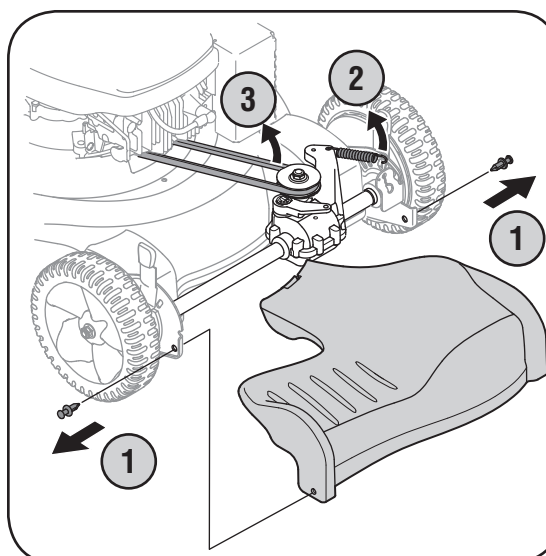

Figure 5-3: Remove cover, unhook spring, and pull belt off of pulley.
- Remove the front drive cover by sliding off the two plastic rivets on each side of the cover with a screwdriver, Figure 5-3.
- Unhook the extension spring from the height adjustment plate, Figure 5-3. This will loosen the tension on the belt.
- Push transmission up a little and slide belt off the transmission pulley, Figure 5-3.